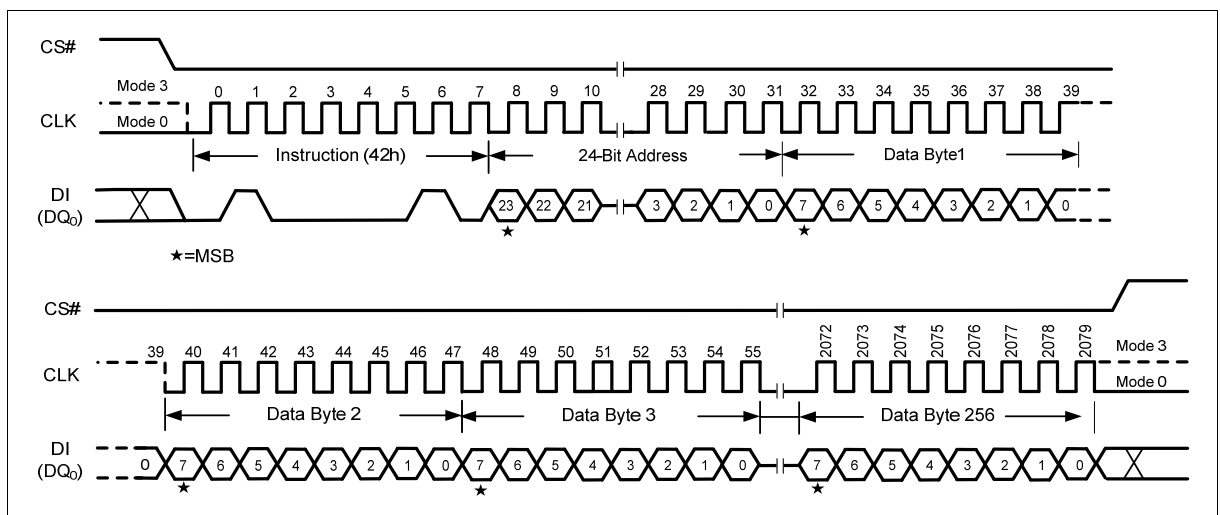

Figure 59 Program Security Sectors Instruction (SPI Mode only)
The Program Security Sector instruction sequence is shown in Figure 59. The Security Sector Lock Bit (LB) in the Status Register-2 can be used to OTP protect the Security Sectors. Once a lock bit is set to 1, the Security Sector will be permanently locked and Program Security Sector instruction will be ignored.